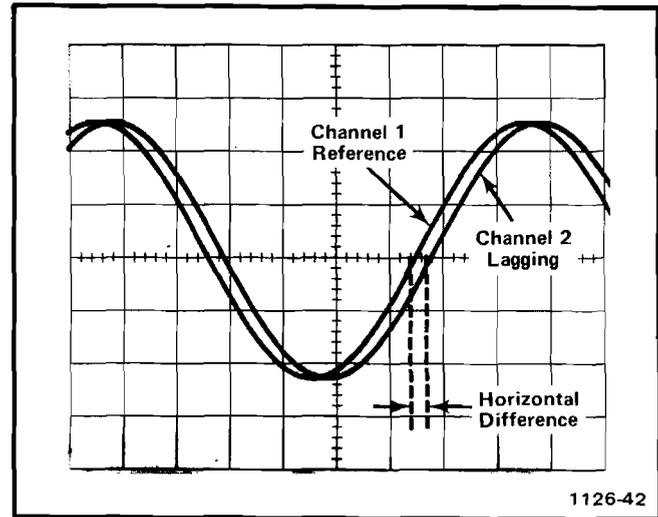

Fig. 2-4. Measuring phase difference between two signals.
8. Adjust the time-base Variable Time/Div control until one cycle of the reference signal occupies exactly eight horizontal divisions between the second and tenth vertical lines of the graticule (see Fig. 2-4). Each division of the graticule represents 45° of the cycle ($360^\circ \div 8 \text{ divisions} = 45^\circ \text{ division}$). The sweep rate can now be stated in terms of degrees as 45°/division.
EXAMPLE: Assume a horizontal difference of 0.3 division with a sweep rate of 45°/division as shown in Fig. 2-4.
Fig. 2-4 but with the Magnifier set to X10. With a horizontal difference of 3 divisions, the phase difference is: